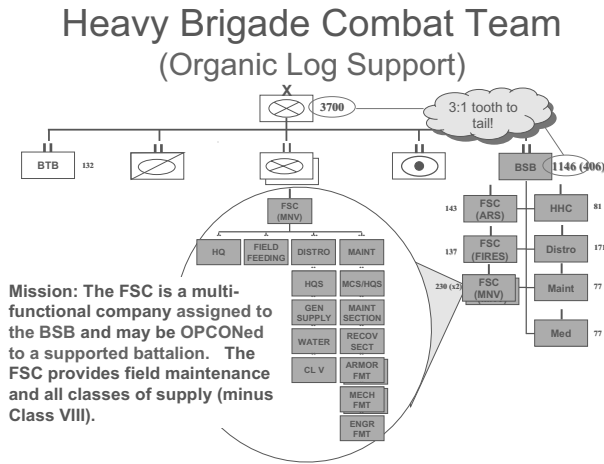

Figure 9 – FSC Composition and Disposition, Brigade Combat Team
d. The Forward Support Company (FSC). In Chapter 1, one of the structural components to come out of the *Force XXI* concept was the inception of the Forward Support Company. The Forward Support Company (FSC) are assigned to a BSB in order to provides field maintenance, distribution-based re-supply of Classes I through VII and IX, and subsistence support for all organic and attached units of a maneuver battalion. FSCs are assigned to Brigade Support Battalions supporting Heavy, Infantry, and Airborne Brigade Combat Teams, Fires Brigade, and Maneuver Enhancement Brigade. (See Figure 9) As of this writing, Force Developers are staffing development of FSCs within Stryker Brigade’s maneuver battalions. FSCs are not found in the following battalion-size organizations: Military Police, Civil Affairs, Chemical, ADA, and Special Forces Battalions. It should be noted that this discussion on the FSC is only an overview.